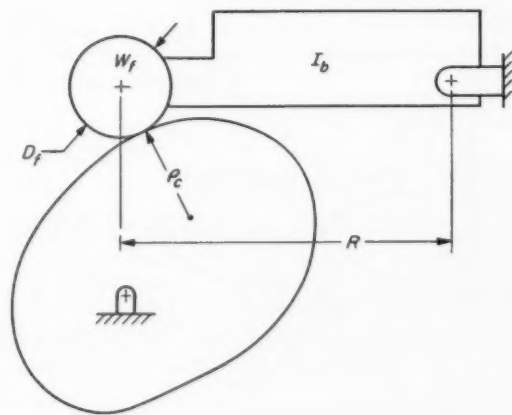

Fig. 2—Pivoted-follower cam mechanism
- $R$  = Center-to-center distance in Fig. 2
A derivation similar to the foregoing one can be made for a pivoted-follower body type of cam mechanism, Fig. 2. For this type of problem, the follower bearing should be chosen according to